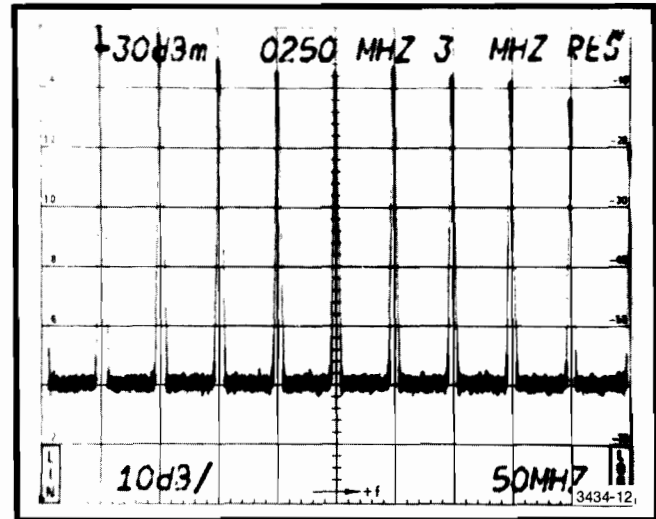

Fig. 2-3. Calibrating the sweep span.
a. With the CAL OUT signal applied to the RF INPUT, increase the FREQ SPAN/DIV to 50 MHz and tune the 250 MHz marker to the center graticule line (see Fig. 2-3).
b. Calibrate the frequency span to 50 MHz/div by adjusting the SWP CAL for 1 marker per division. It may be necessary to keep the 250 MHz marker centered with the frequency TUNING control as the sweep is calibrated. Final display should resemble that in Fig. 2-3.